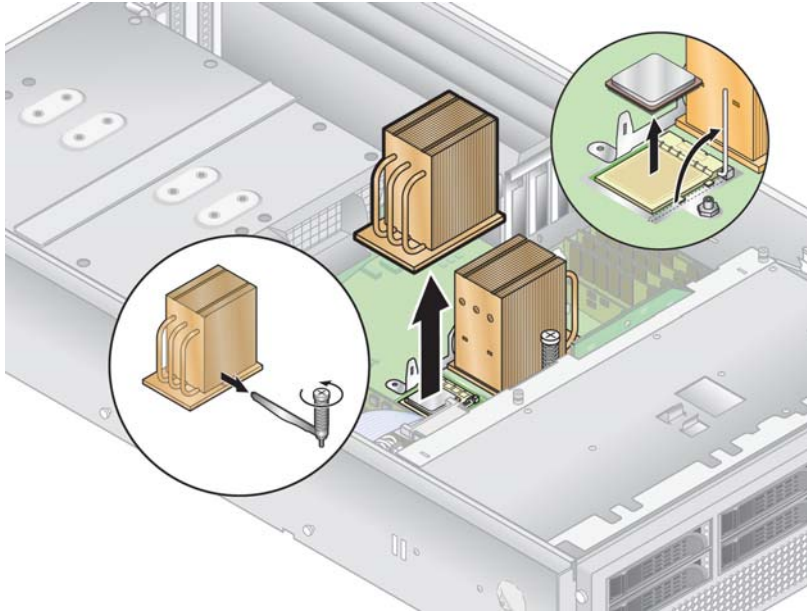

FIGURE 5-28 Removing the Heatsink and CPU
5. **Loosen the captive screw that secures the heatsink hold-down assembly crossbar, then remove the crossbar from within the heatsink fins (see FIGURE 5-28).**
8. Pull the socket release lever up to the fully open, perpendicular position (see FIGURE 5-28).